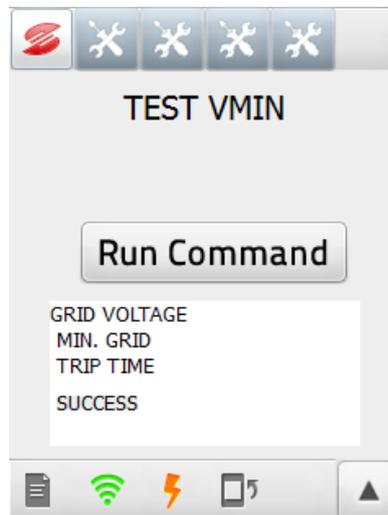

Figure 85: Test page
- press the **Run Command** () button to enable the test: the trip value starts varying until it matches with the measured value (see Figure 85);